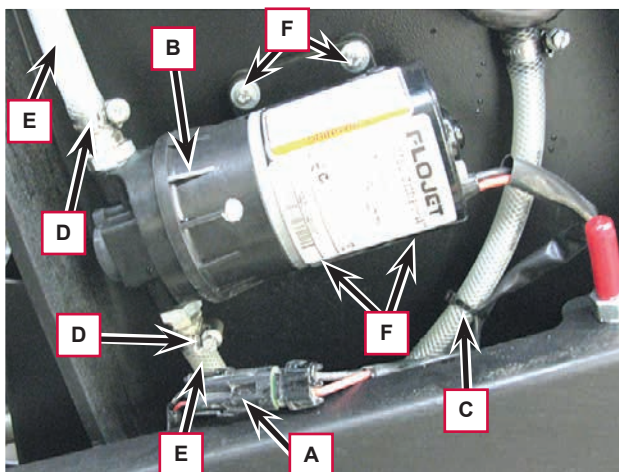

Figure 5
6. Disconnect the pump (B) electrical connection (A, Figure 5).
7. Cut the cable clamp (C).
8. Loosen the clamps (D) and disconnect the lines (E) from the pump.
9. Unscrew the screws (F) and remove the pump (B).